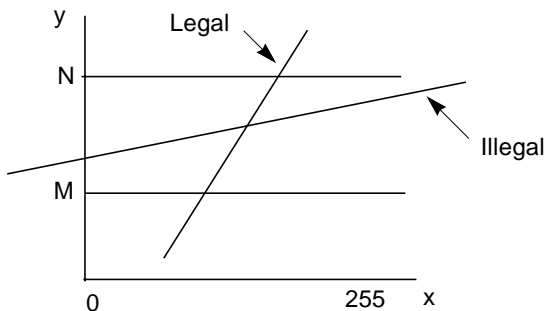

FIGURE 4-1 Creator Depth-cueing
- The parameters for `xil_rescale` must be chosen such that y values of the line represented must span the range of values between N and M while the x values are within 0 and 255. See FIGURE 4-1.